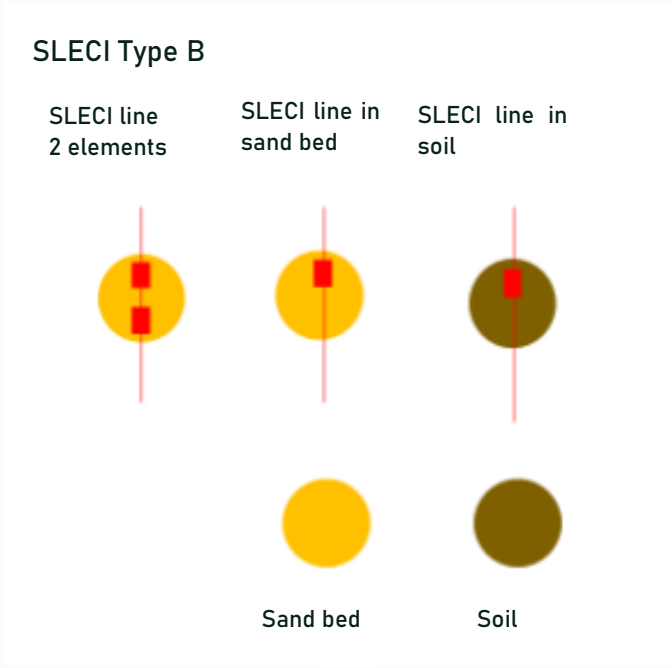

Figure 3-2d: SLECI system Type B variant from new planted crops
- Fig. 3-2d: Installation for new plantings